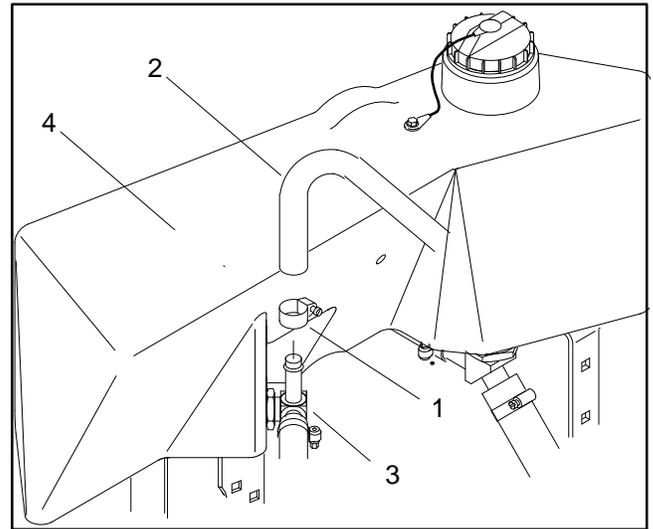

Figure 20
- A. Loosen hose clamp (1) and disconnect hydraulic return hose (2) from the hydraulic fitting (3). Plug hose and fitting to prevent leakage and contamination (Fig. 20).